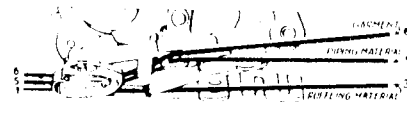

Fig. 55. Correct Positions for Materials.
- Insert material to be ruffled between two blue blades from the right (Line 3, Fig. 55). This material must not exceed $1\frac{1}{4}$ inches in width.
- The piping material is usually cut on the bias and it should be about $\frac{1}{4}$ inch wide when folded in center. Place piping material in ruffler, following Line 5, Fig. 55 with folded edge of piping to right.
and insert it in ruffler, from the left following Line 6, Fig. 55.